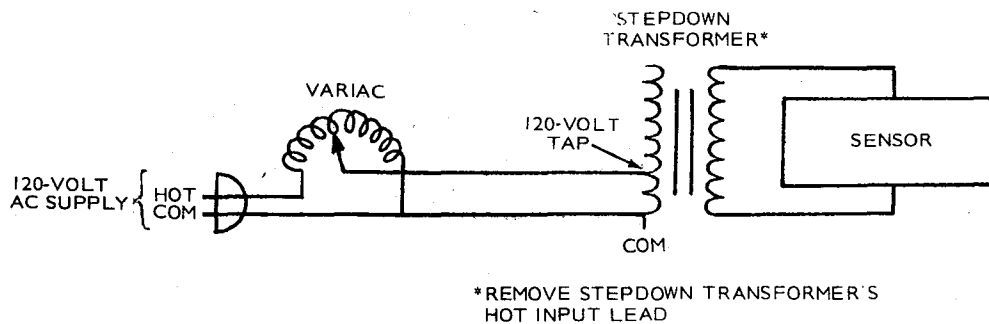

FIGURE 18. CONNECTION OF VARIAC TO STEPDOWN TRANSFORMER
removed in Step 11 (using the instructions with the Multi-Tester). If using a variac, connect its common output lead to transformer T2-1 (com) and its other output lead to transformer terminal 2 (120-volt connection). See Figure 18.
11. If available, connect an Onan Multi-Tester to the transformer terminals of the terminal strip and the wire lead removed using the instructions in the Multi-Tester. If using a variac, connect its common output lead to transformer T2-1 (com) and its other output lead to terminal 2 (120-volt connection). See Figure 18.